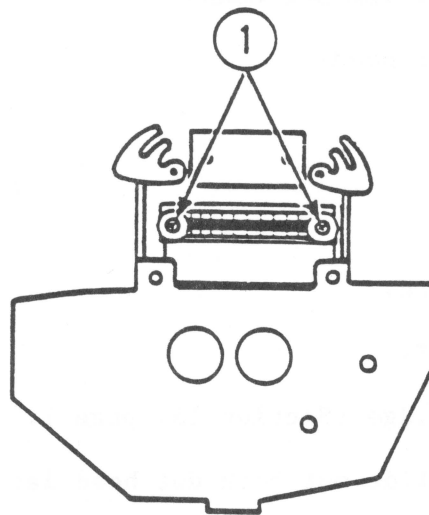

FIGURE 4
4. Remove the two screws holding the dot head connector. (See Figure 4, #1.)